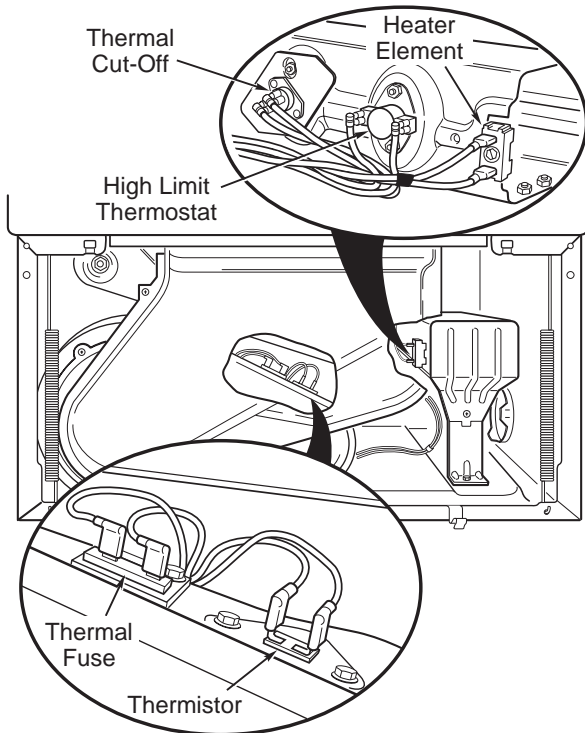

Figure 1
Remove the thermistor from the fan housing and plug the hole. Protect the thermistor and leads from grounding against any metal parts. See Figure 1. Completely block the exhaust outlet. Turn dryer on and allow the high-limit thermostat to cycle once, then measure the time elapsed until the high-limit thermostat trips. It should trip between 21 and 38 seconds.
Once the thermal fuse has opened, it must be replaced. Check for failed thermistor, shorted heat element, or other causes of failure. Replace failed parts. See Figure 1.
- a. If you hear three short beeps and the dryer shuts off after several seconds, the thermistor or wire harness is either shorted or open. Check wire connections at Even Heat control and thermistor. If wiring is functional, replace the thermistor: Unplug the dryer and remove the front toe panel. Remove the two wires and replace the thermistor as shown in Figure 1.
This unit is equipped with a “one-shot” thermal cut-off. See Figure 1. If the dryer does not heat and there are 240 Volts to the dryer, disconnect the dryer from its electrical source and check thermal cut-off for continuity. If continuity is open, thermal cut-off has failed and must be replaced.